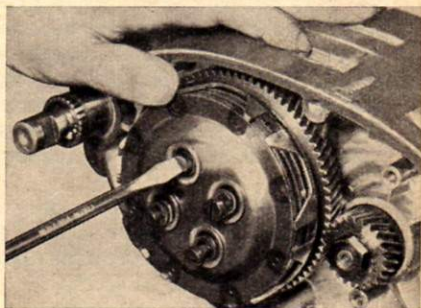

Fig. 26 Removing oval head screws from the clutch centre
3. Unscrew the 4 oval head screws from the clutch centre (fig. 26), and remove spring cups and clutch springs from the clutch plates.